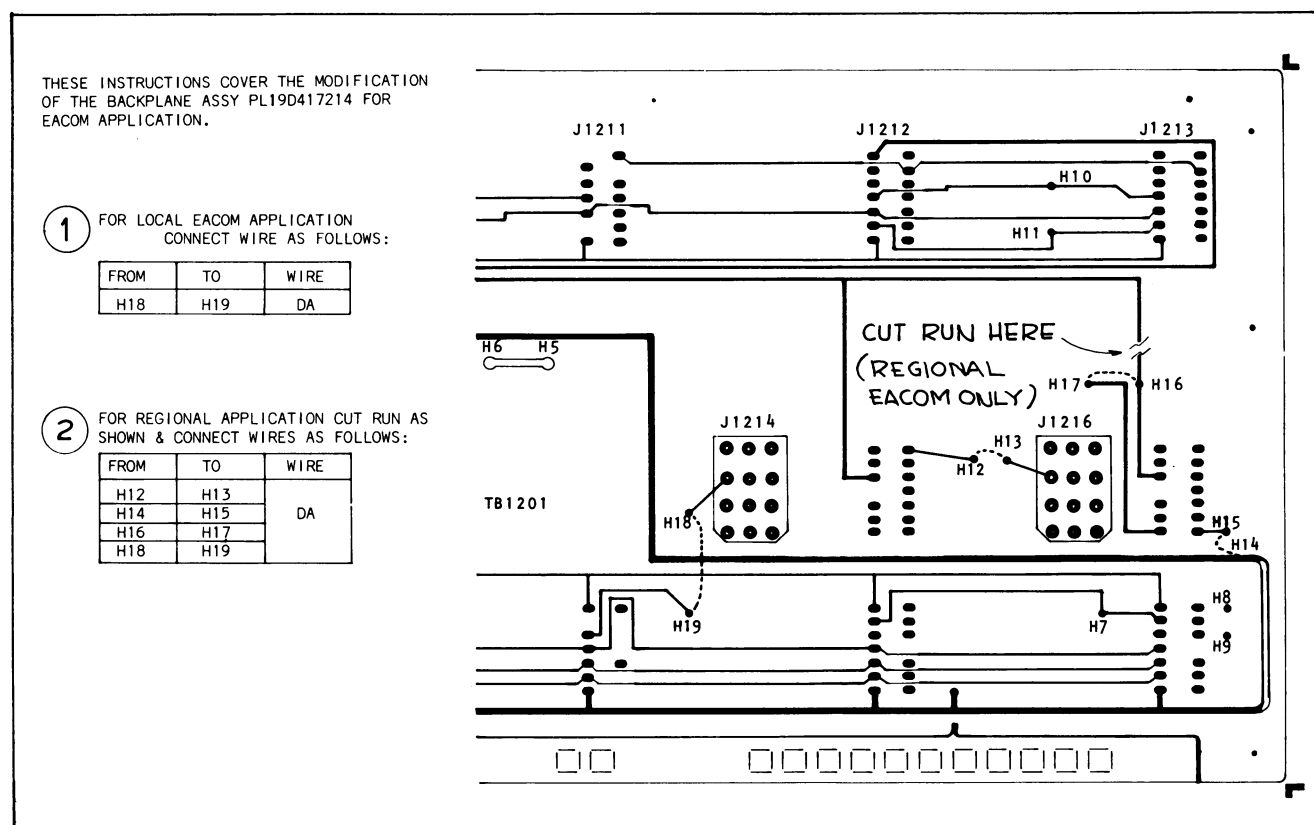

Figure 1 - Backplane Modifications for Use With the Model 4503 DTMF Decoder
Prior to installing and using the 4503 Decoder, perform the modifications on the G.E. MASTR II Backplane Assembly PL19D417214 (solder side) as detailed in Figure 1 below. Ensure that all code programming, strapping, and system adjustments are completed as outlined in the following sections of this manual before installing and operating the 4503 Decoder.
When used in REGIONAL EACOM applications, Decoder #1 will occupy the 2nd from left slot in the tone control shelf with edge contact fingers mating with J1212. Decoder #2 will occupy the outer left slot in the tone control shelf with edge contact fingers mating with J1213 on the backplane board. A trace must be cut on the backplane board as shown in Figure 1, and wire jumpers soldered between those points on the backplane board as listed under ② in Figure 1.